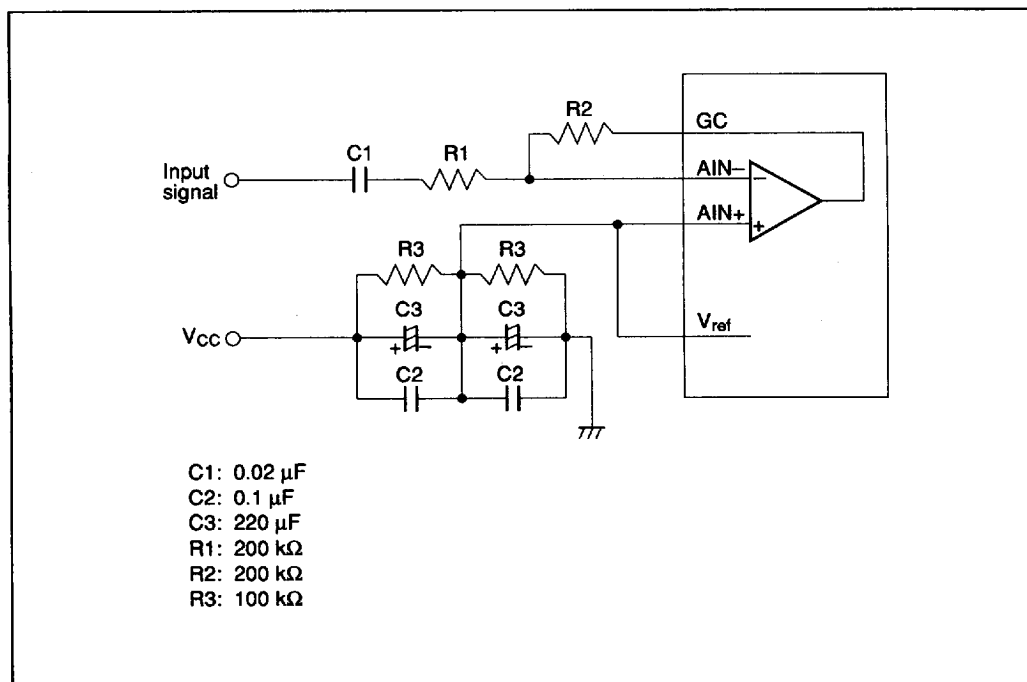

Figure 46 DTMF Receive Signal Characteristic Measurement Circuit
5. Use the measurement circuit (figure 46).